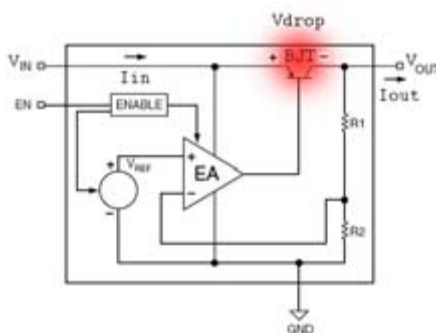

Figure 1. Typical Linear Regulator Circuit.
A linear regulator is a dissipative step-down power regulator. This initial description sounds wasteful because a linear regulator will literally convert a higher input voltage to a lower output voltage by dissipating power through an active component. This component is usually a bipolar junction transistor (BJT), as seen in Figure 1. The output voltage is set by the feedback resistor network (R1 and R2), which tells the error amplifier (EA) how much power to dissipate in order to get the desired output voltage.
As shown in the calculation above, the efficiency of a linear regulator can be estimated to be the output voltage divided by the input voltage and does not depend upon the output current. For example, if V_{in} equals 3.6V and V_{out} equals 1.8V, then the efficiency is 50 percent, assuming other small losses in the system are negligible. If one converts a 5V input voltage to a 1V output voltage using a linear regulator, then one would only get 20 percent efficiency. This means that's 80 percent of the total input power is dissipated. At higher currents the dissipated power could generate a considerable amount of heat which can then lead to thermal issues (shown in red in Figure 1).